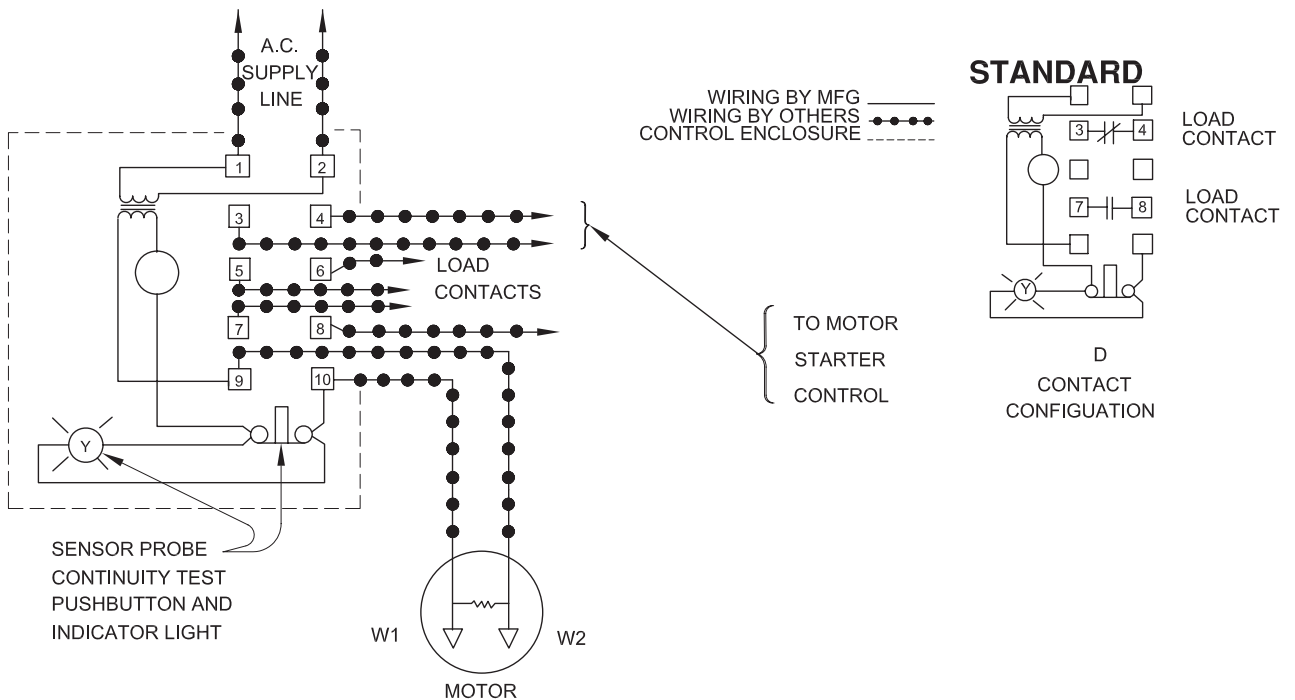

FIGURE 4
A normally open (N/O) detector is installed in the pump seal chamber, which will detect any moisture present, and a continuity test resistor built into the motor. The test resistor is rated 1 watt at 330K ohms. The moisture sensors **MUST** be connected to moisture detector control, which includes a continuity test circuit, see Fig. 4 for typical wiring diagram. The normally closed (N/C) contact of the moisture detector **MUST** be connected in series with the stop button of the pilot circuit of the magnetic motor controller. A Warrick moisture detection control, Type 2800 is an acceptable control if properly installed and maintained. Wiring must be provided from the moisture detector sensor probe leads of the motor designated W1 and W2 to terminals 9 and 10 of the 2800-XXX control. Terminal pair 1-2 must be continuously energized from an A-C supply line of electrical characteristics shown on the data table.
- c. A moisture detection circuit with continuity test circuit (see Fig. 4)